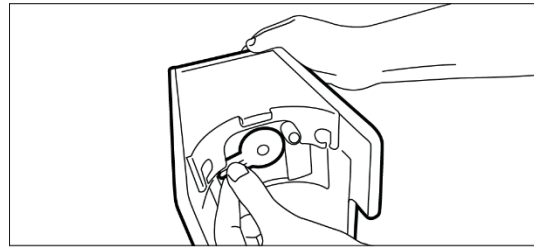

Fig. 13
1. Ensure that the adapter for the disposable secretion canister system is correctly inserted. After insertion, rotate the adapter handle a quarter turn to the left until the lever is horizontal (Fig. 13).